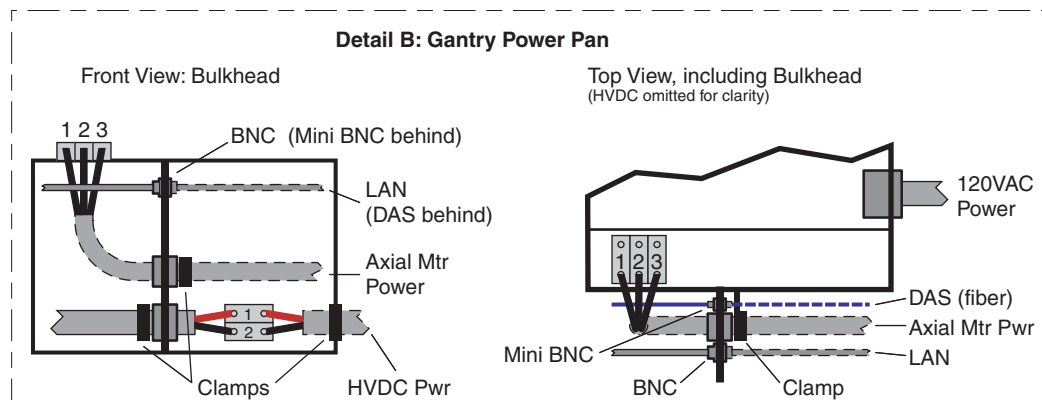

Figure 2-14 Power Pan Connections
- 2.) Install the cables to the gantry power pan. The power pan is located on the rear of the gantry at its base. See “Detail B” (Figure 2-14) of the system interconnect drawing for connections.
Observe correct phase rotation when connecting the axial motor power. Phases one, two and three should be connected left to right, as shown in Figure 2-14.